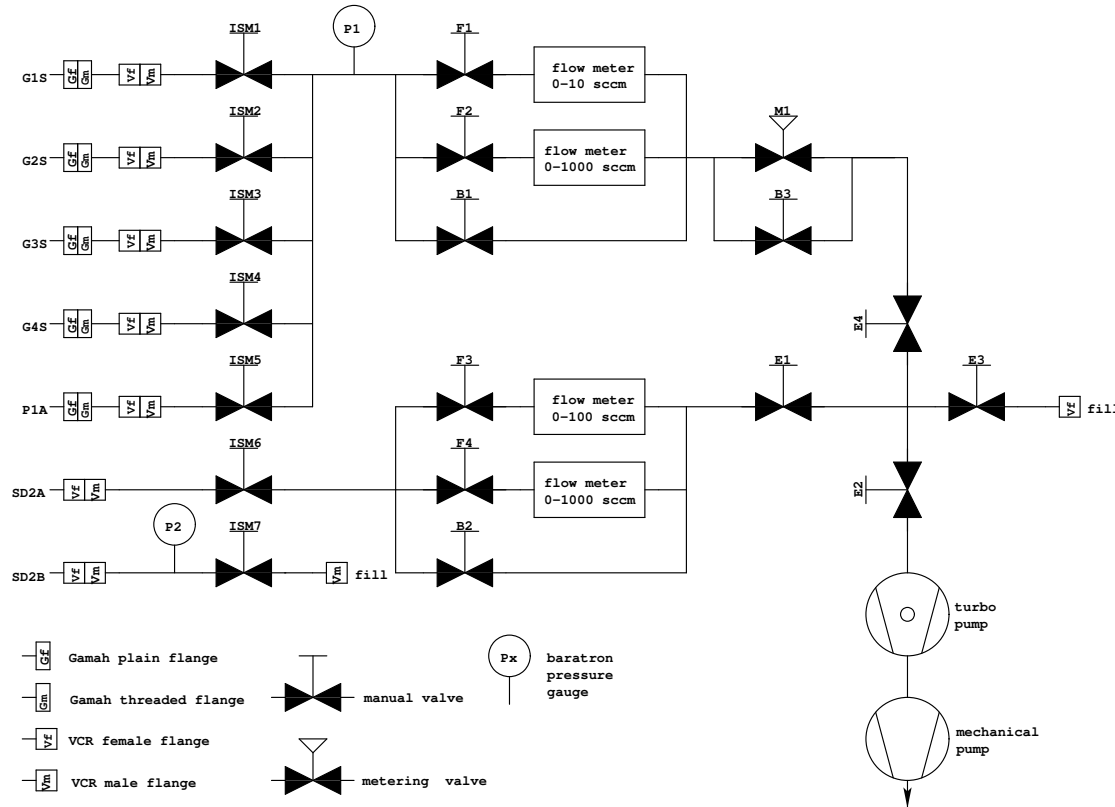

Fig.2 Schematic of Impedance Simulation Manifold (ISM) connected to Spin Up GMA
Impedance Simulation Manifold	See Fig. 2
4.2.1 See Fig. 2. Attach manifold to G1S-G4S and P1A through the connector savers. Then attach manifold to SD2A and SD2B through the connector savers. Leak test all the connections made to the GMA through the ISM7 and/or the E3 valve on the manifold.